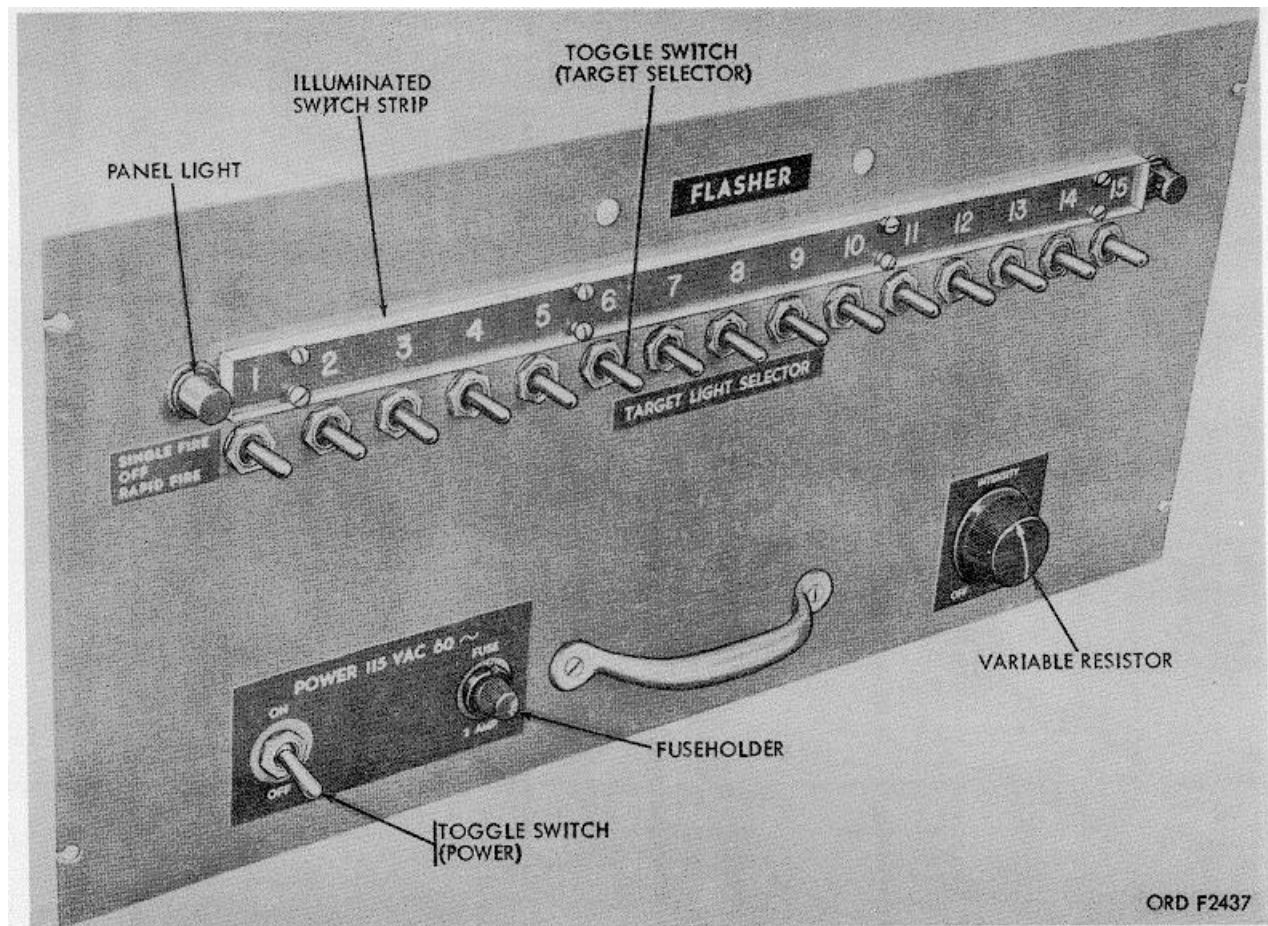
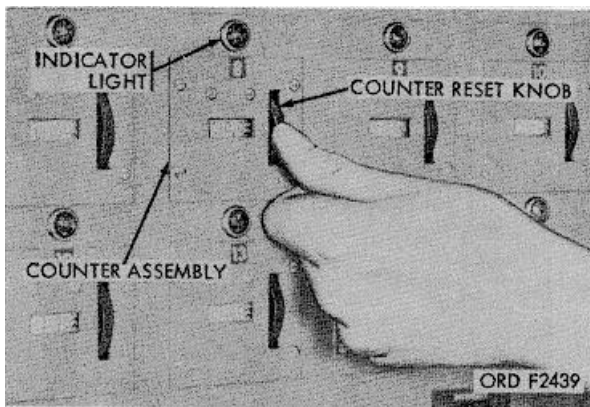

Figure 5. Flasher chassis assembly.
Figure 8. Operating counter reset knob.
15. Target Selector Toggle Switches (fig. 5)
- (1) With counter chassis and flasher chassis disconnected from terminal box assembly, set all counters to zero by operating the reset knobs (fig. 8) (par. 10).
- (1) Turn power switch to the ON position.
- (2) Check indicator lights by use of target selector toggle switches (par. 15) (fig. 5).
- (3) Flip power switch to the OFF position.
a. Operate counter reset knobs of the counter assemblies (par. 10) and set all counters to zero (fig. 8).